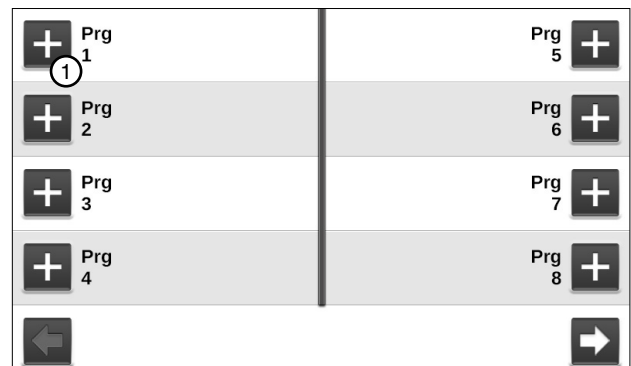

Figure 117-1 Step Programs Screen
2. Push the **New Program** button corresponding to the preferred program number as shown in Figure 117-1.